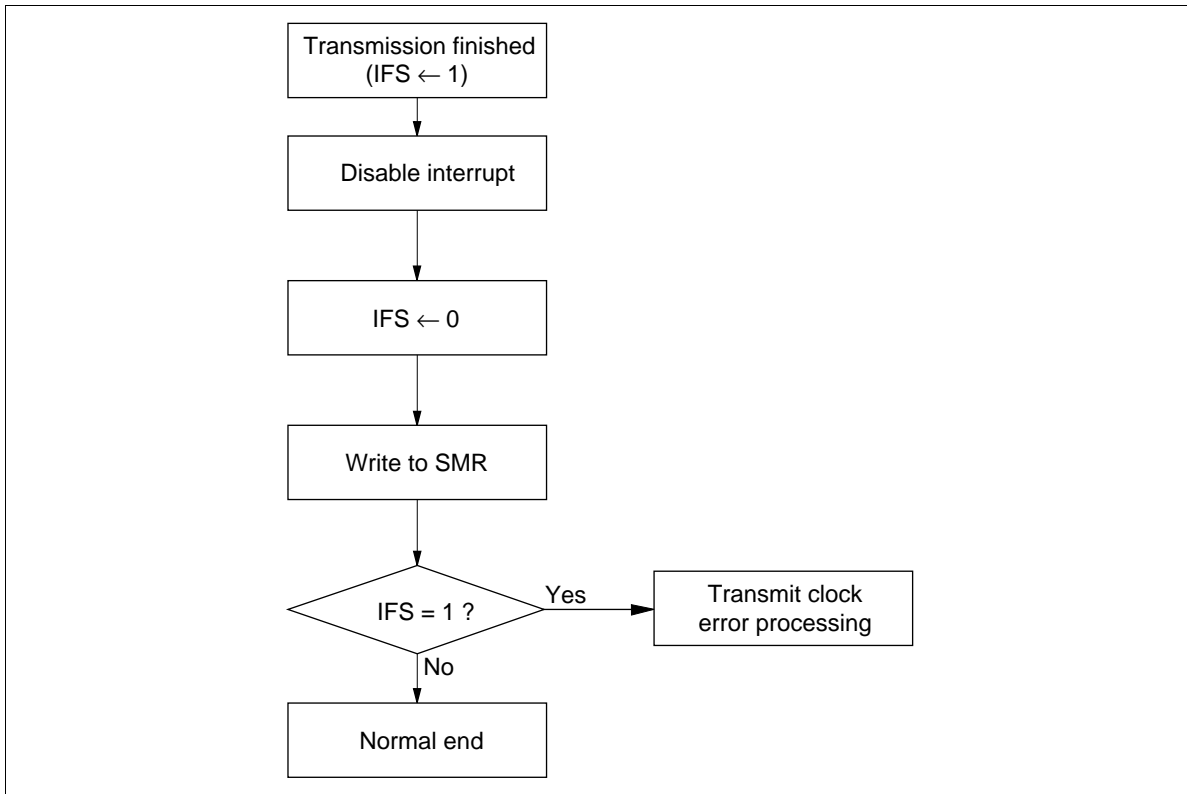

Figure 31 Transmit Clock Error Detection
**Example of Transmit Clock Error Detection:** The serial interface malfunctions when the transmit clock is disturbed by external noise. In this case, transmit clock errors can be detected by the procedure shown in figure 31.